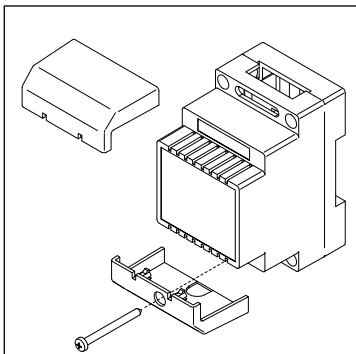
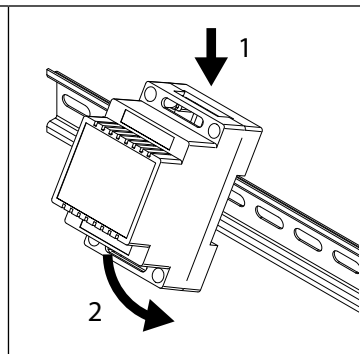
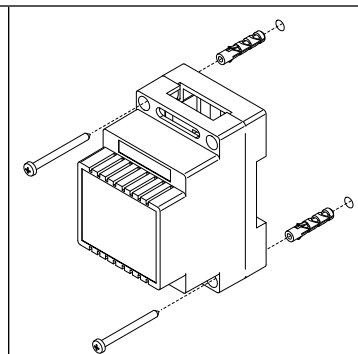

Fig. 3
Fig. 4
Fig. 5
- Put the base of the unit on the wall at approx 135cm from the finished floor (Fig. 3) to mark the points for the fixing holes (B) (Fig. 4) remembering that the wires (E) (Fig. 4) must be fed through the hole (F) (Fig. 4). If you use the flush mounting box 503, embed it into the wall vertically at approx. 140cm from the finished floor and the base.
- Following Fig. 4, make the holes (B), insert the wall plugs (C) and fix the base with the screws (D) feeding the wires (E) into the hole (F). If you have used the box 503, fix the base to the wall through the holes (G) using the screws (D).
1. Remove the terminal side covers by unscrewing the retaining screws (Fig. 3);
2. Fix the power supply to a DIN rail (Fig. 4) or directly to the wall using two expansion type screws (Fig. 5);
To give power supply to the module connect one of the inbuilt IDC male connector ① to the IDC male connector of the camera unit module through the flat cable provided. A further buttons expansion module can be connected to the free IDC male connector of the previous expansion module (**Fig. 3**).